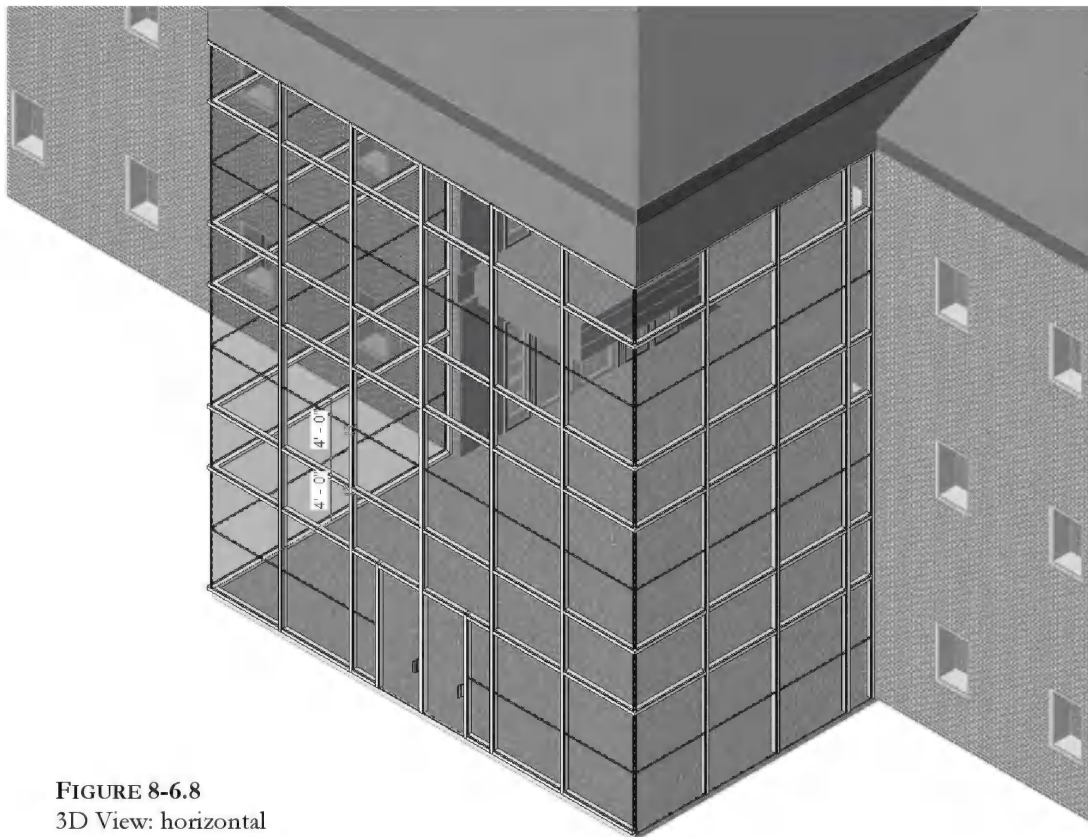

FIGURE 8-6.8
15. Using the **Curtain Grid** tool on the *Modeling Tab*, add horizontal lines equally spaced between the larger vertical spaces as shown in Figure 8-6.8 (you should be able to place all the grid lines from this one view angle).
17. Select Rectangular Mullion: 2.5" x 5" rectangular from the *Type Selector* (Figure 8-6.8).